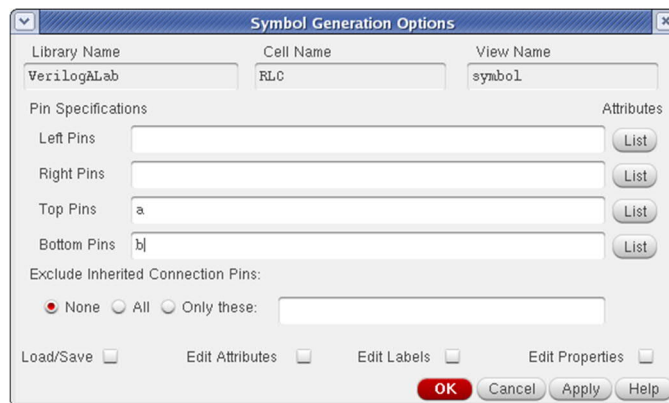

Figure 2. The **Symbol Generation Options** window.
- d. After editing and correcting all the errors, save the file and quit. A message “*Cellview RLC symbol does not exist*” will appear. Choose *yes* to generate the symbol view of instance **RLC**. Specify the pins *a* and *b* in the new window (Figure 2) and generate the symbol. Click **OK**.